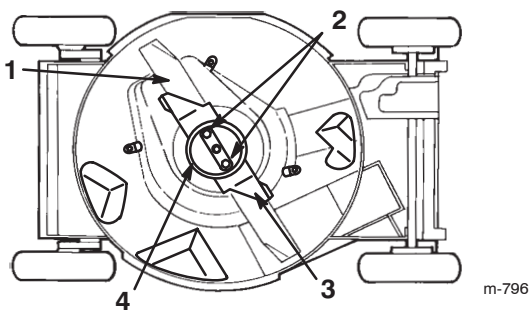

Figure 23
4. Tip the lawn mower onto its **right** side (air cleaner up) (Fig. 23).
2. Remove the blade nuts, the anti-scalp cup, the accelerator, and the blade (Fig. 23).
5. Remove 2 blade nuts, the anti-scalp cup, the accelerator, and the blade (Fig. 23).